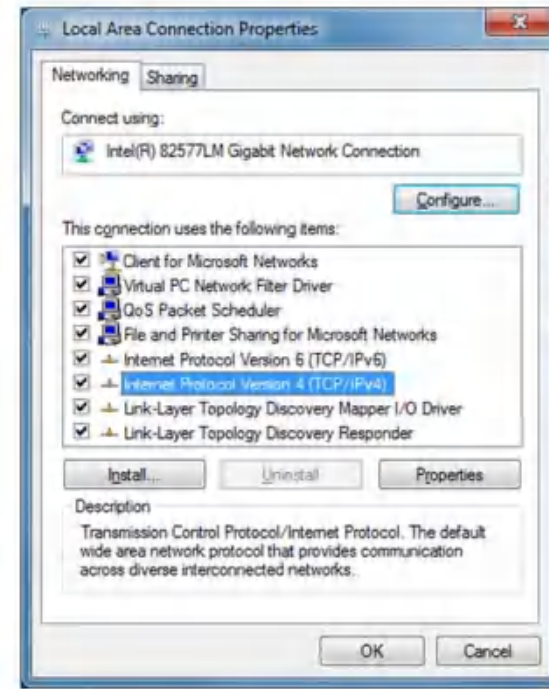

Figure 1 Properties window
4. Select **Internet Protocol Version 4 (TCP/IPv4)**. Select **Properties**, Figure 1. The Internet Protocol Version 4 (TCP/IPv4) Properties window will open.